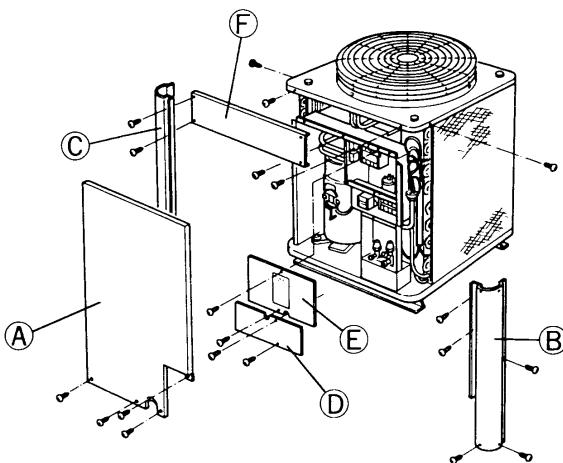

Fig. 17
- 3) Remove the mounting plate **(F)**. Fig. 17
- 1) Many wires have to be removed. When removing wires, carefully check the electric diagram on the rear side of the cover plate **D**. Fig. 17